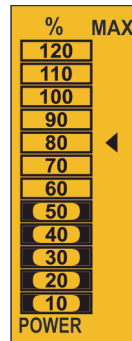

Figure 25: Analogue Bar
**Example:** Figure 25 shows that the installation performance is 50% and that the maximum demand of the system is 80%.